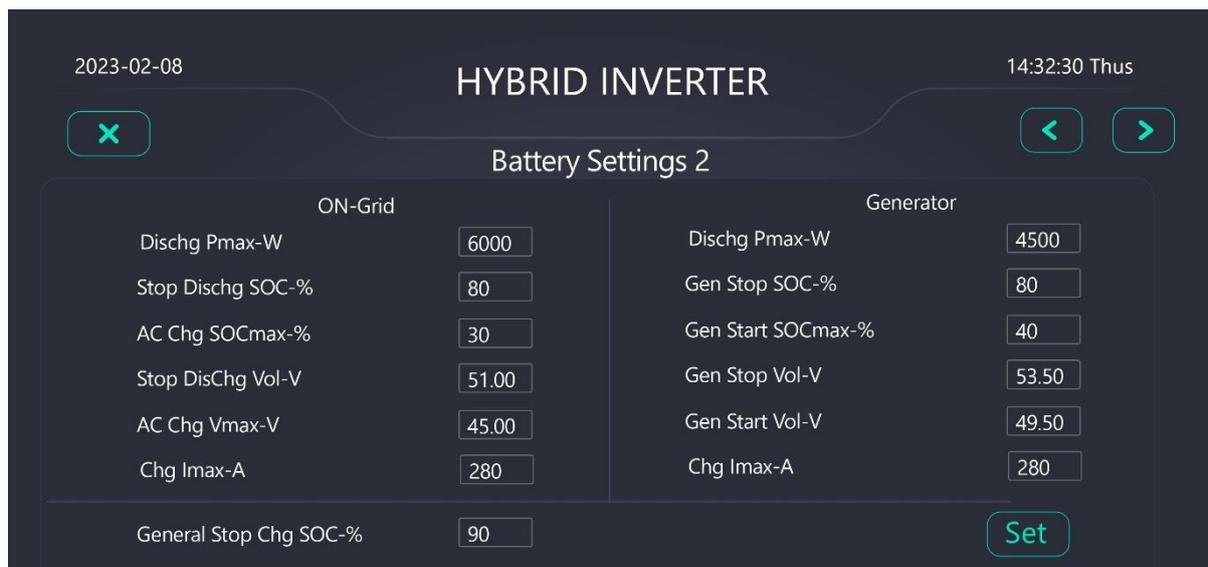

Figure 3.13 Battery Setting 2 Interface
Bat Mode: Select one of "Lithium", "Use Bat V" or "Use Bat %" for all the setting. This will affect ②,③ in that Figure 3.12 and Figure 3.13 settings below.